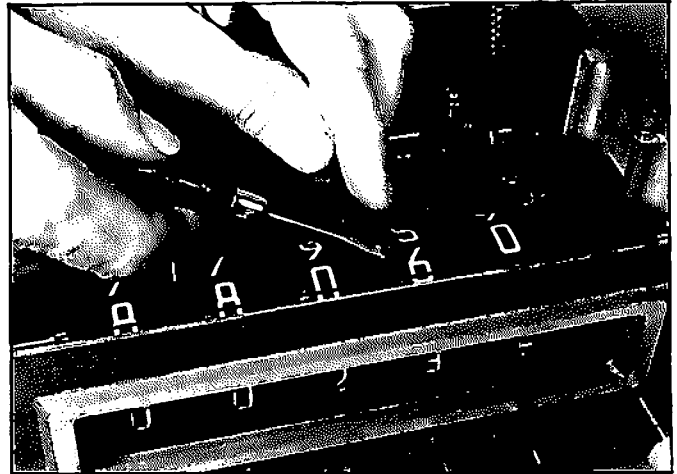

Figure 5. Removal of Disc Insert from Wheel.
7. Ensure that the character wheel disc inserts (Figure 5) are located as follows: